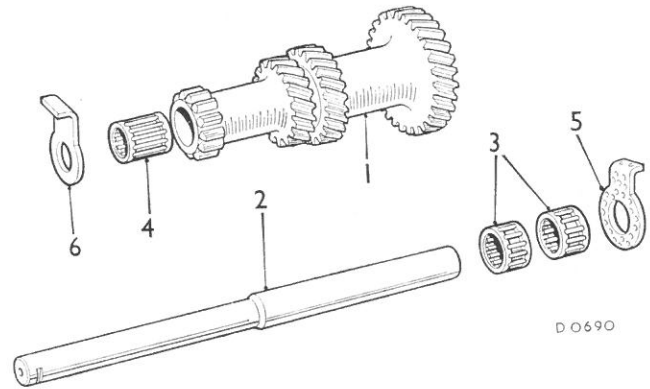

Fig. F.4
- (28) Refer to item (18). Drift the third motion shaft bearing into the central web using Service tool 18G 579 modified, together with the spacer washer.
- (29) Refit the laygear with the standard sized thrust washer at one end, and measure the gap at the other. Refer to the chart (Fig. F.4) to select the correct variable thrust washer, to give an end clearance of between .002 and .006 in. (.05 and .15 mm.). On three-speed synchromesh gearboxes the small thrust washer is of a standard size, the large one selective, and vica versa on four-speed synchromesh gearboxes.